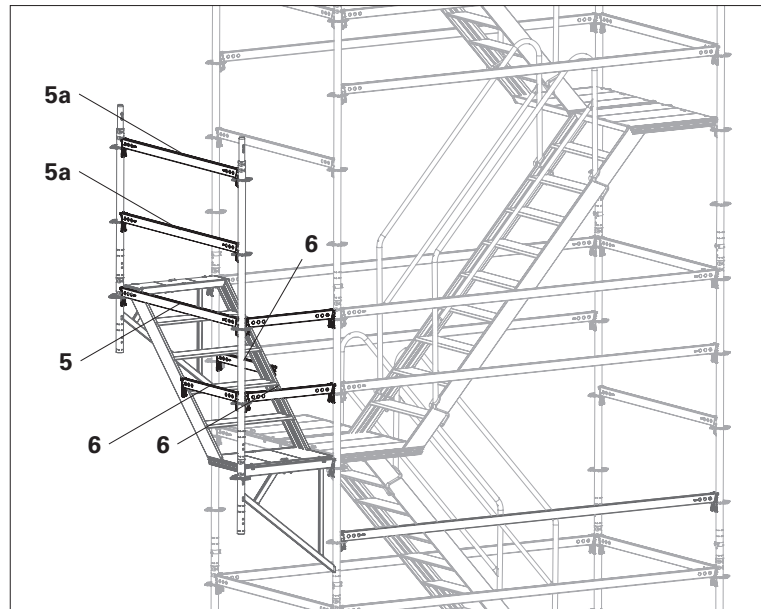

Fig. B6.05
6. Remove Horizontal Ledger UH-2 150 from the base scaffold and fit it at the exit point as lateral protection (**5a**). (Fig. B6.05)